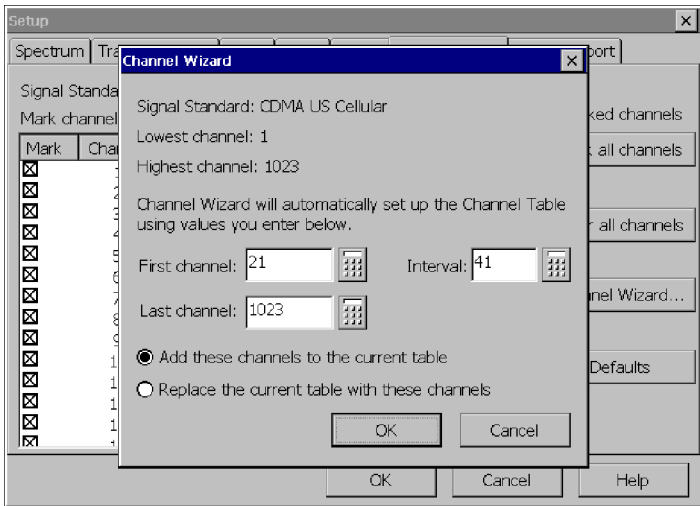

Figure 2-17: The Channel Wizard
- a. Tap the **Channel Wizard...** button. This displays the window shown in Figure 2-17.